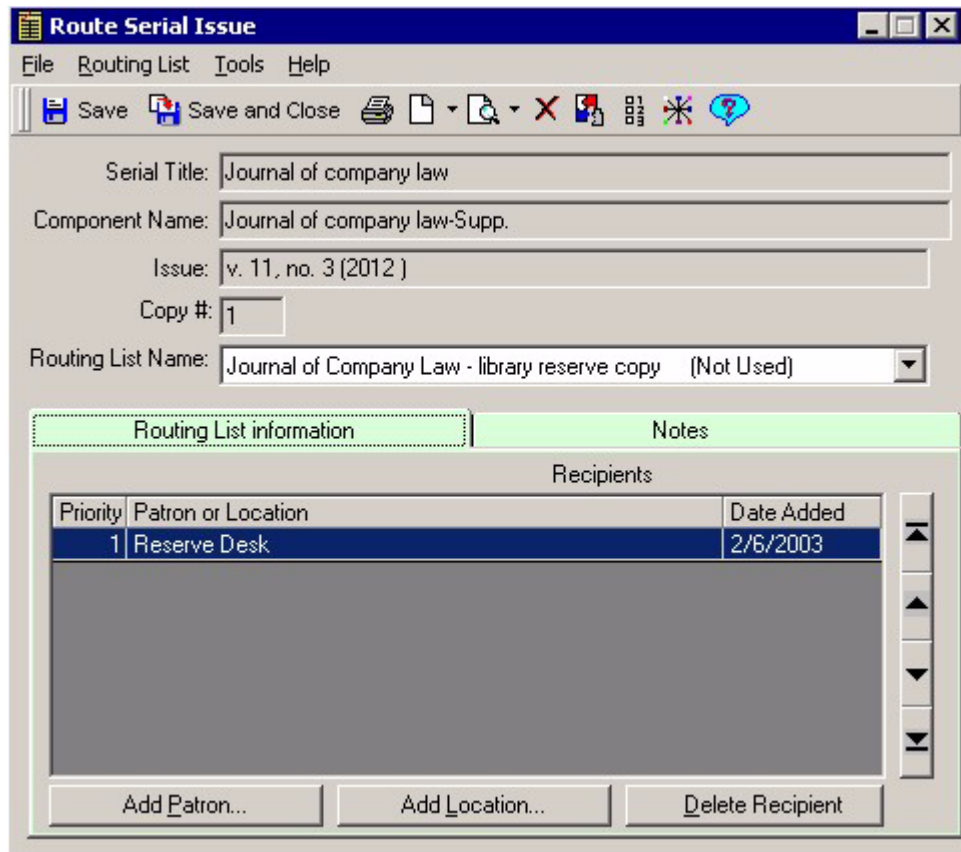

Figure 9-9. Routing list associate with a component
- The routing list associated with the component opens. When you close the **Route Serial Issue** dialog box (Figure 9-9), the newly-created item record displays if a single item record was created.